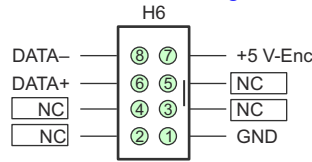

Figure 3-8. Abs-Enc-1 (J7) Pinout on TIDM-1011 Board
- b. Insert the header of the adaptor, created in the previous step, to connect to Abs-Enc-1 (J7). The female end of the Tamagawa cable connects to the encoder. Figure 3-8 shows the pinout of J7.